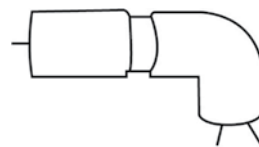

Figure 3: Nacelle. NEED Exploring Wind Energy: Teacher guide (pg 22)
- The instructor should build the **Nacelle [brief definition]** (Figure 3) and it will need to be fitted on the top of the base when the first group is ready to test their blades.